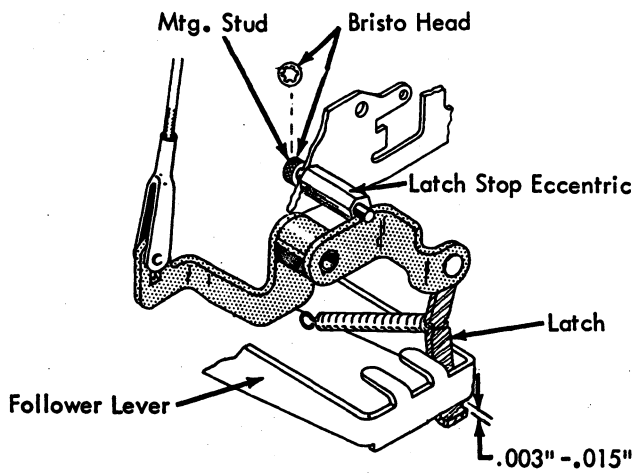
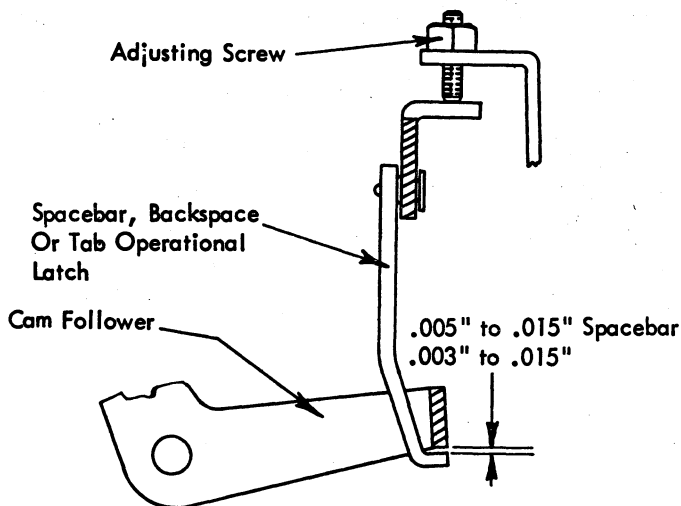
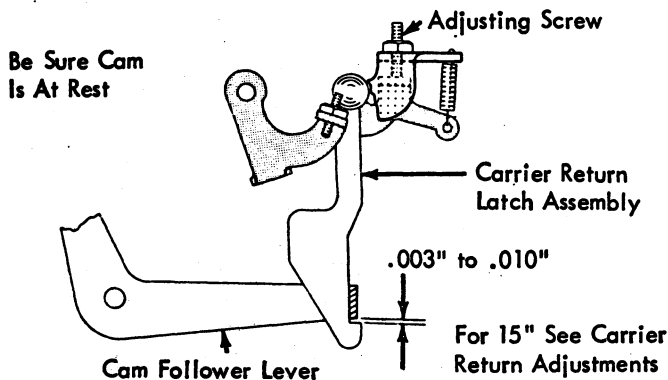

FIGURE 159A. Tab Latch Height
FIGURE 159B. Latch Height
FIGURE 160. Latch Height (11 Inch)
3. **Operational Latch Height** - The adjustable latch screws (eccentric stop on tab latch Fig. 159A) for the backspace, spacebar, and tab operational latches should be adjusted so that the latches will pass under the cam follower lever with a clearance of .003" to .015" (Fig. 159B). The carrier return operational latch adjustable stop should be adjusted so that the latch will pass under the cam follower with .003" to .010" clearance (Fig. 160).